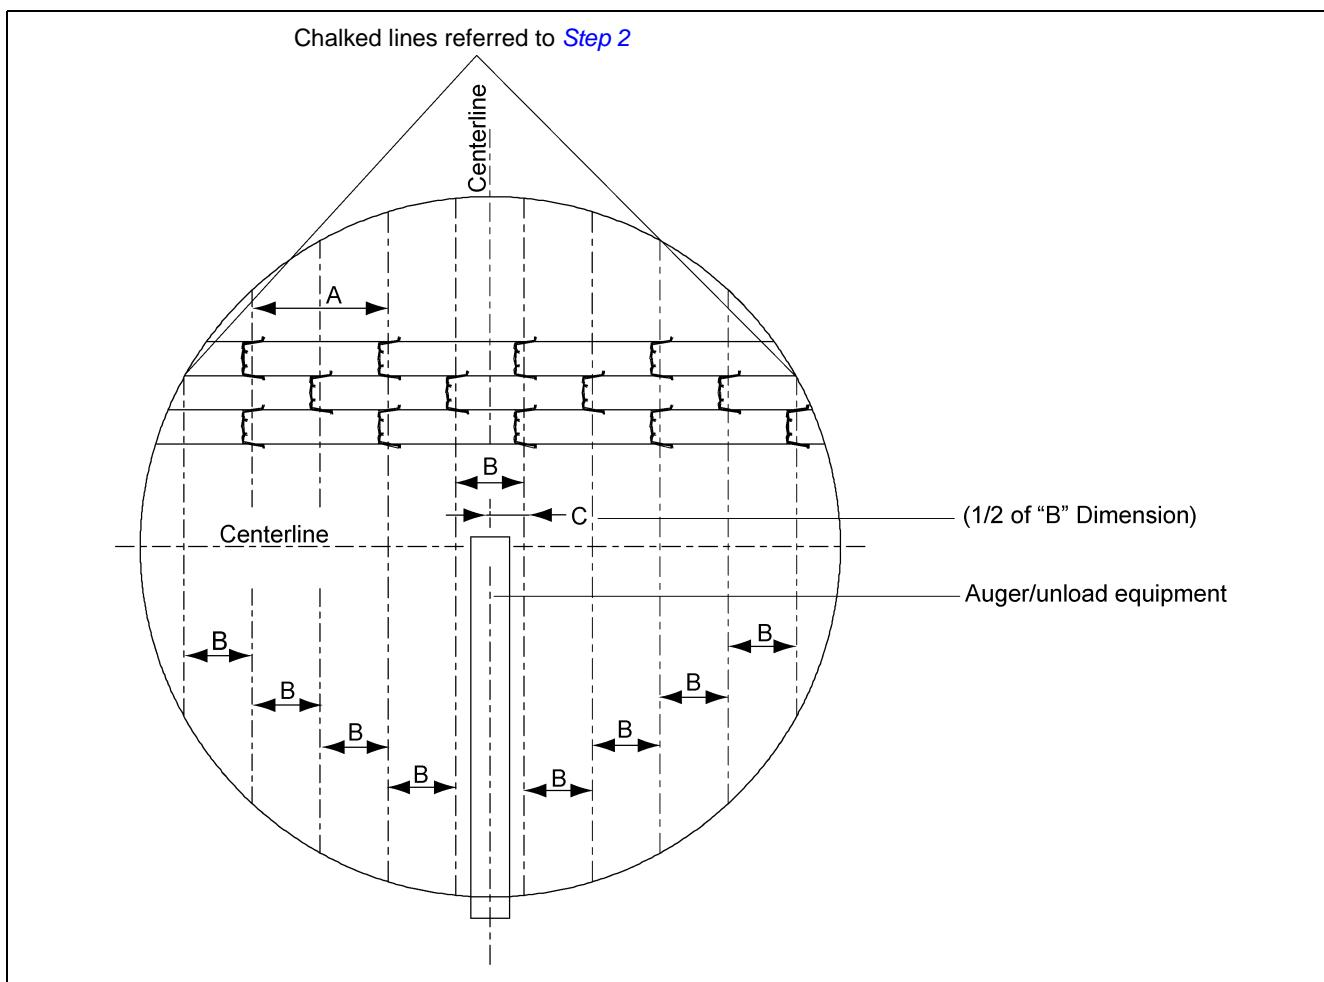

Figure 2B
Using the GSI recommended method for full floor installation should save construction time and eliminate the problem of improper installation which could invalidate your warranty. Note the following dimensions as shown in Figure 2B.
1. Layout centerlines of tank. Make sure one centerline is in line with the direction of the flooring planks while the other centerline is perpendicular with the flooring planks. See Figure 2B.
2. From the centerline that is perpendicular to the flooring planks, measure the distance of "C" Dimension and mark a chalk line. See Figure 2B.
3. From the line chalked in the previous step, measure over the distance of "B" Dimension and chalk another line. Repeat this procedure across the bin until reaching the wall in both directions. When completed, there should be a set of parallel lines (perpendicular to the floor planks) with "B" Dimension distance between each line. See Figure 2B.